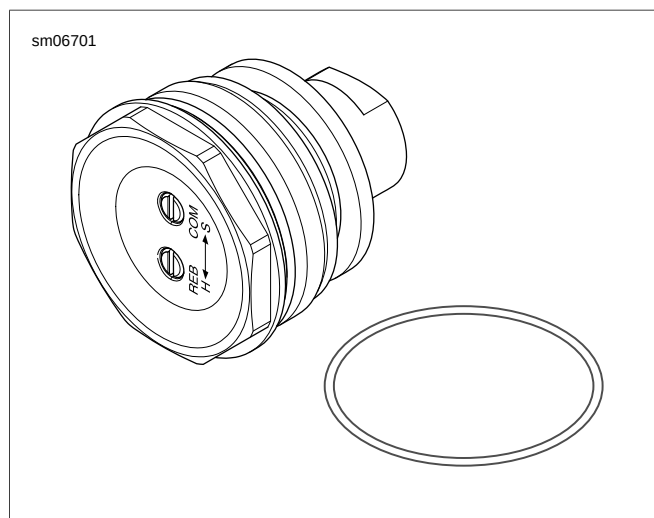

Figure 2-152. Fork Cap and O-Ring
2. See Figure 2-152. Replace the O-ring on the fork cap.